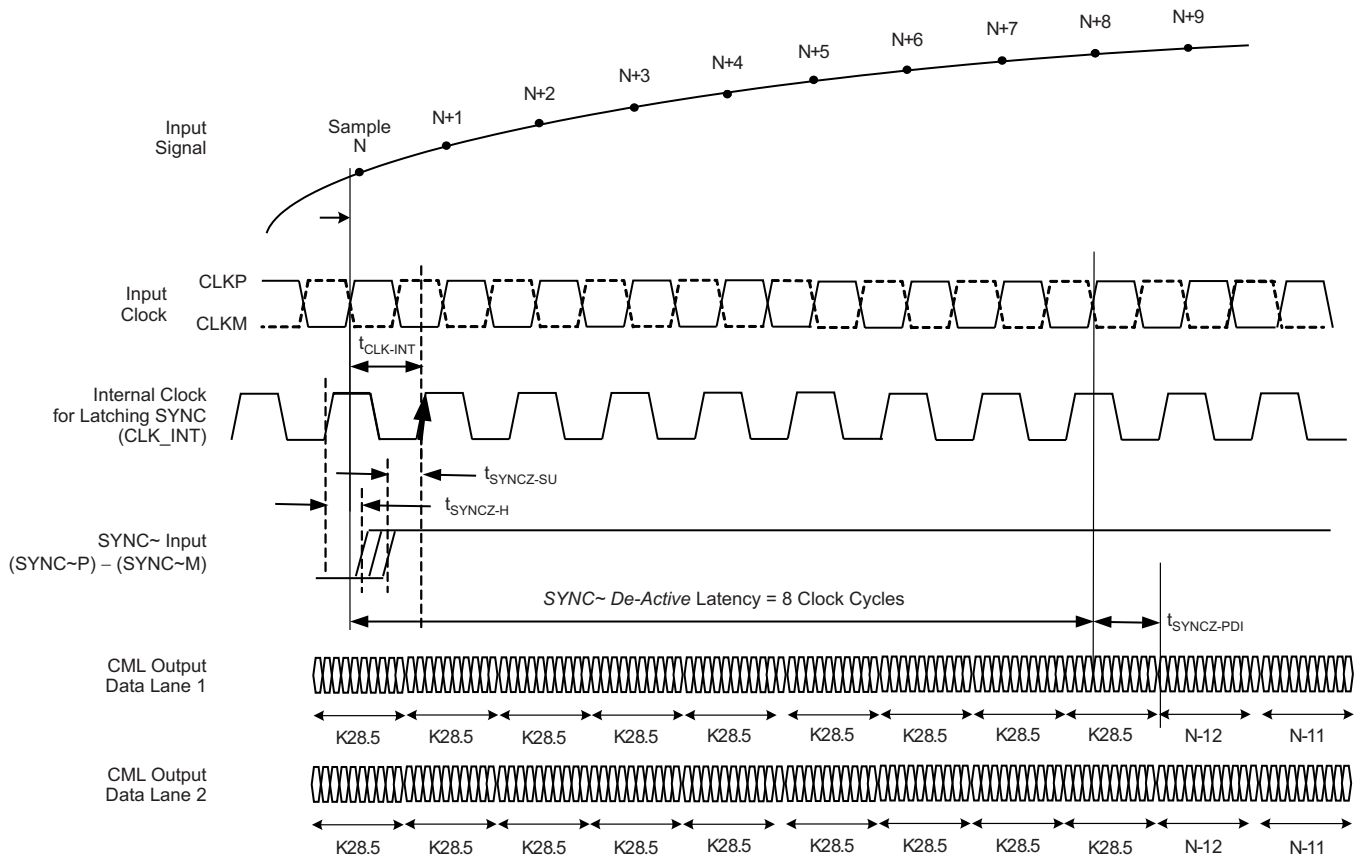

**Figure 5. SYNC~ Active Timing Diagram**
The receiver issues a synchronization request through the SYNC~P, SYNC~M pins whenever the frame boundary of the output data stream must be synchronized to. Figure 5 shows how the transmission switches from normal data (D) to code group synchronization symbols K28.5 symbols during and after a synchronization request.